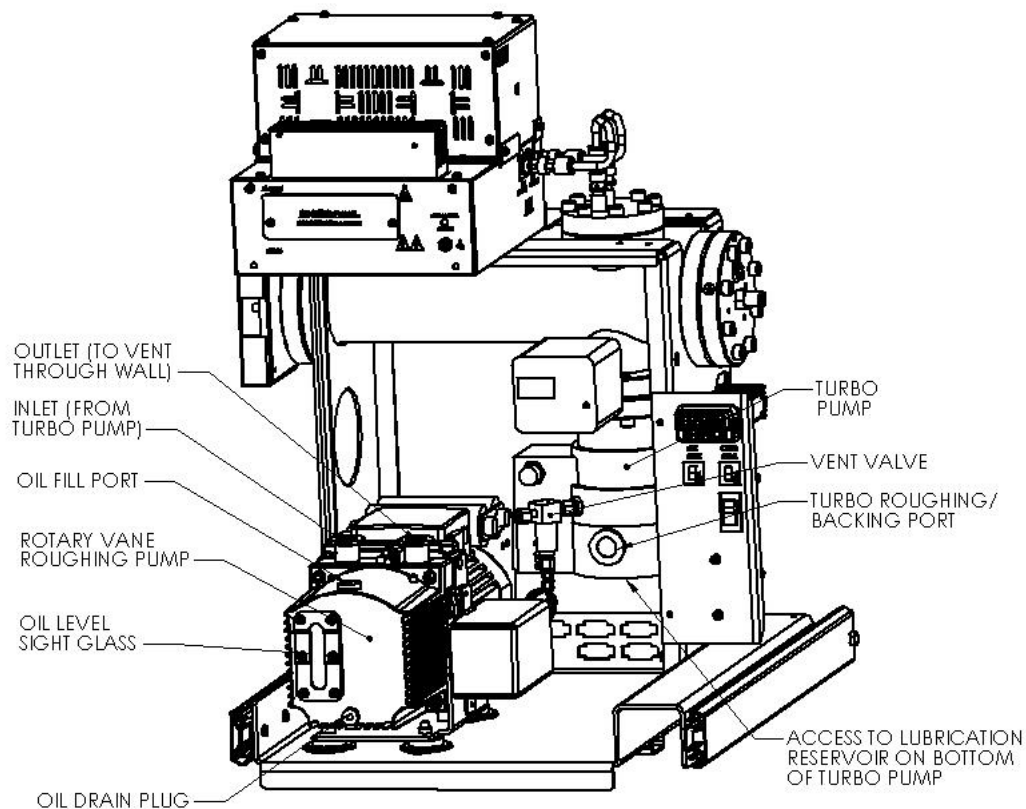

Figure 29: Pump Configuration on VacTrac
- Remove the fill port plug from the top of the pump (refer to Figure 29, page 52)
To maintain a high level of vacuum within the chamber, a rotary vane mechanical pump and a turbomolecular pump are used. The turbo pump is connected directly to the vacuum chamber, while a mechanical (roughing; fore) pump is connected to the turbo pump. The standard system is provided with a turbo pump and a rotary vane pump. Figure 29 shows the location of these components.
Both the roughing pump and its oil will be hot (up to 80°C). After venting the system, **disconnect the inlet line from the enclosure wall** and release the slide latch on the left side of the *VacTrac* assembly (refer to Figure 29, page 52). Pull the *VacTrac* out of the enclosure far enough to place a catch pan under the drain